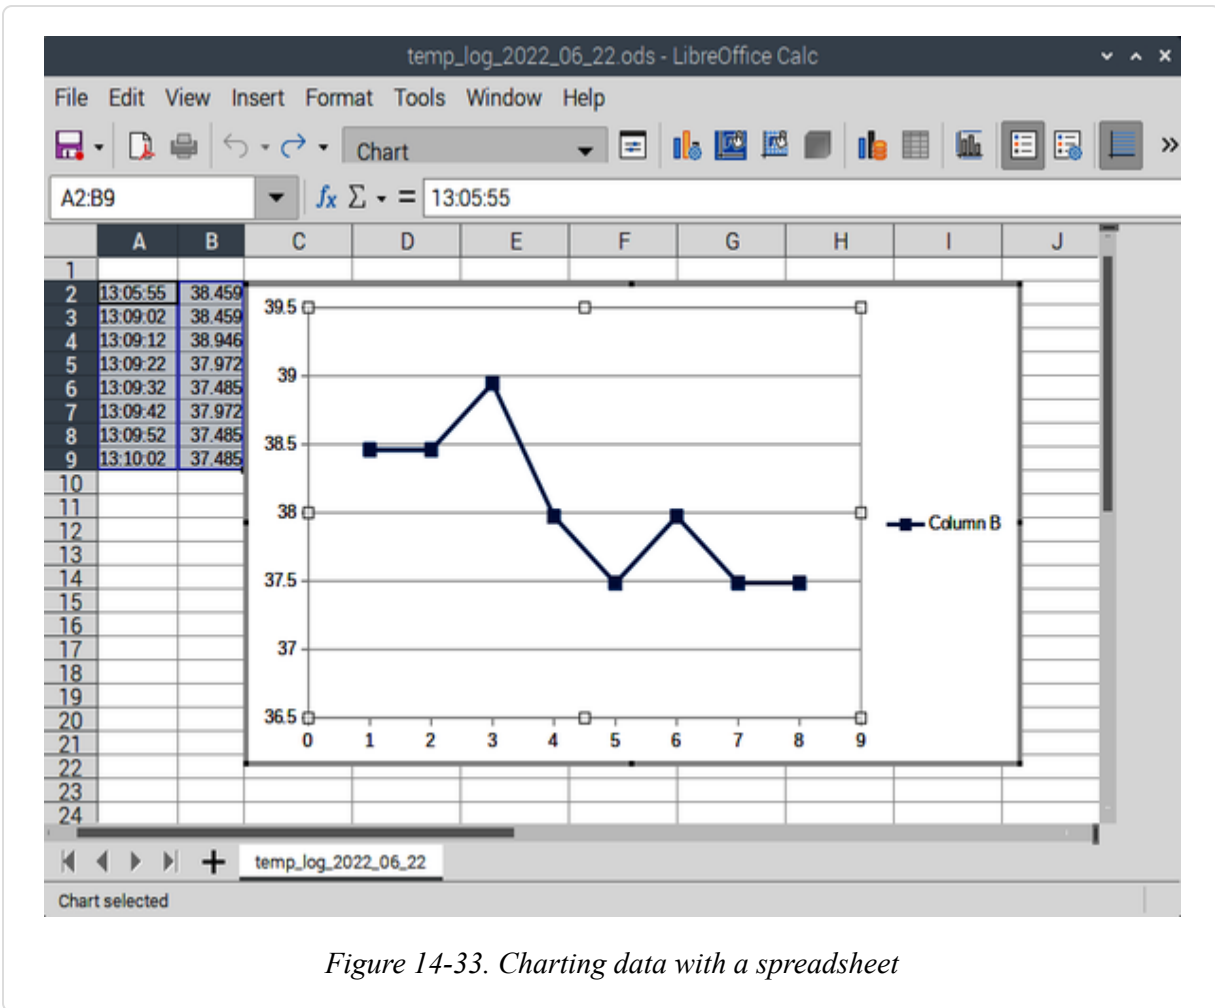

Figure 14-33. Charting data with a spreadsheet
**Figure 14-33** shows a set of data captured using this recipe, and the resulting file has been opened with the LibreOffice spreadsheet (**Recipe 4.3**) running on the Raspberry Pi.